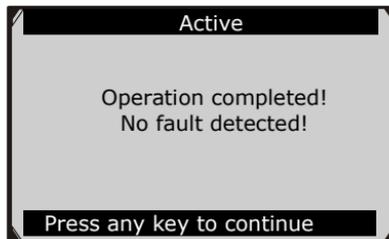

Figure 8.22
- 2) In the Active menu, use the **UP/DOWN** button to select the desired actuator to begin test. If the selected actuator works correctly, the tool will display a confirmation message as below (Figure 8.22). Otherwise, it will display a message to remind user of a problem. After you exit the diagnosis program, please repair the problem immediately.